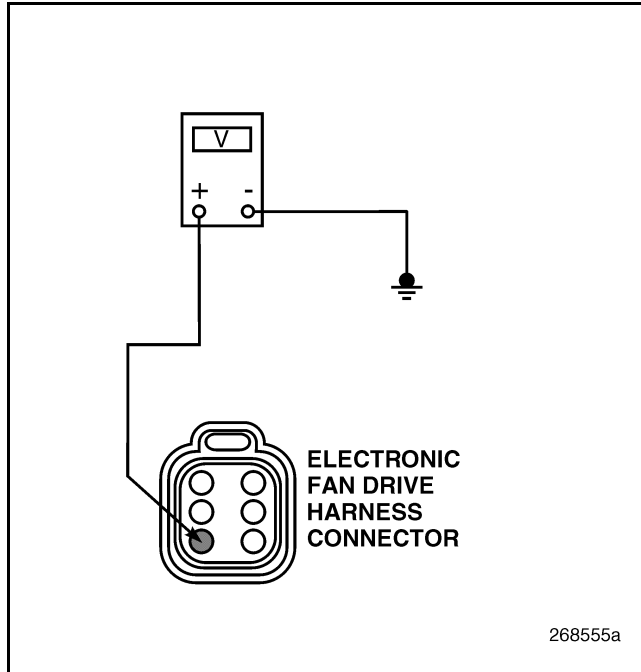

Figure 120
5. Measure the voltage between electronic fan drive harness connector pin 3 and a good ground (see Figure 120).